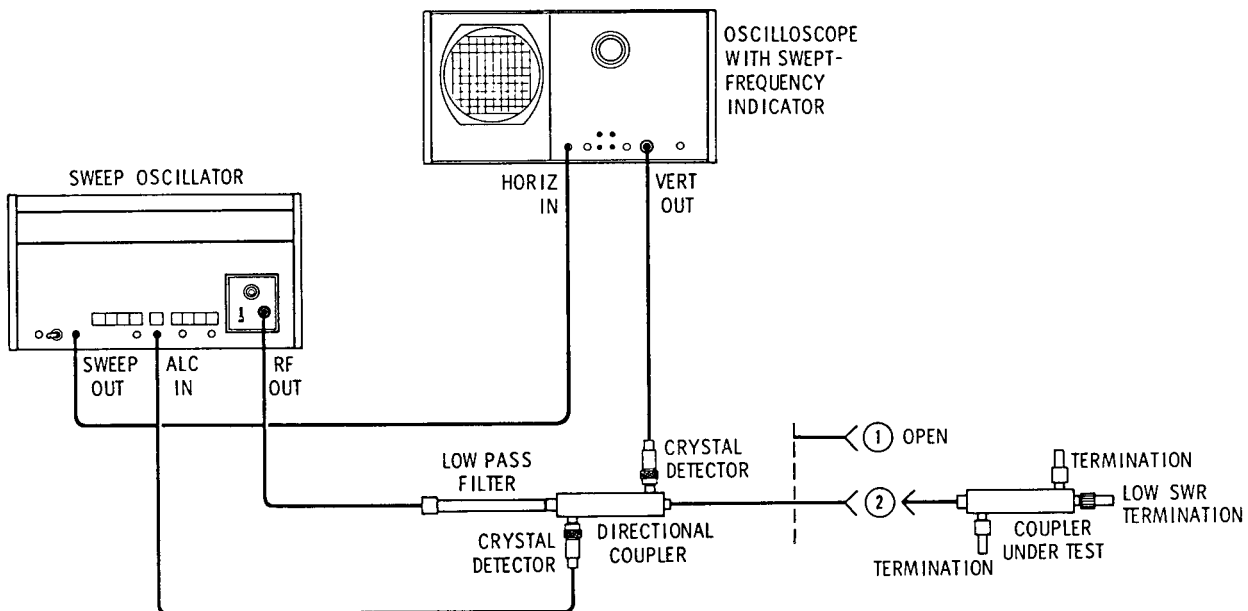

Figure 8 Swept-Frequency Primary-Line SWR Test Setup
To test a 775D use another good 775D as the directional coupler in Figure 8.
Description Refer to **Figure 8** for test setup and for test equipment.
- Terminations (3)
1. Connect the equipment as at (1) in **Figure 8**.
- a. Connect the dual-directional coupler under test as shown at (2) in **Figure 8**.